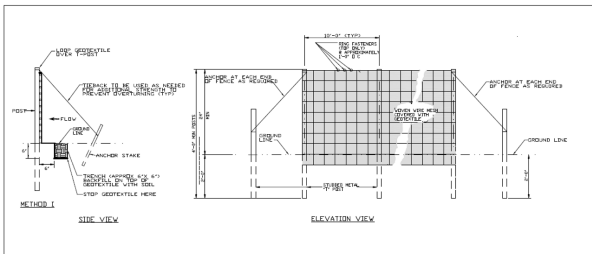

Figure SB-1 Detail of Type A Silt Fence
- The preferred method of installation is an “off-set” trench as shown in Figure SB-1 and SB-3.